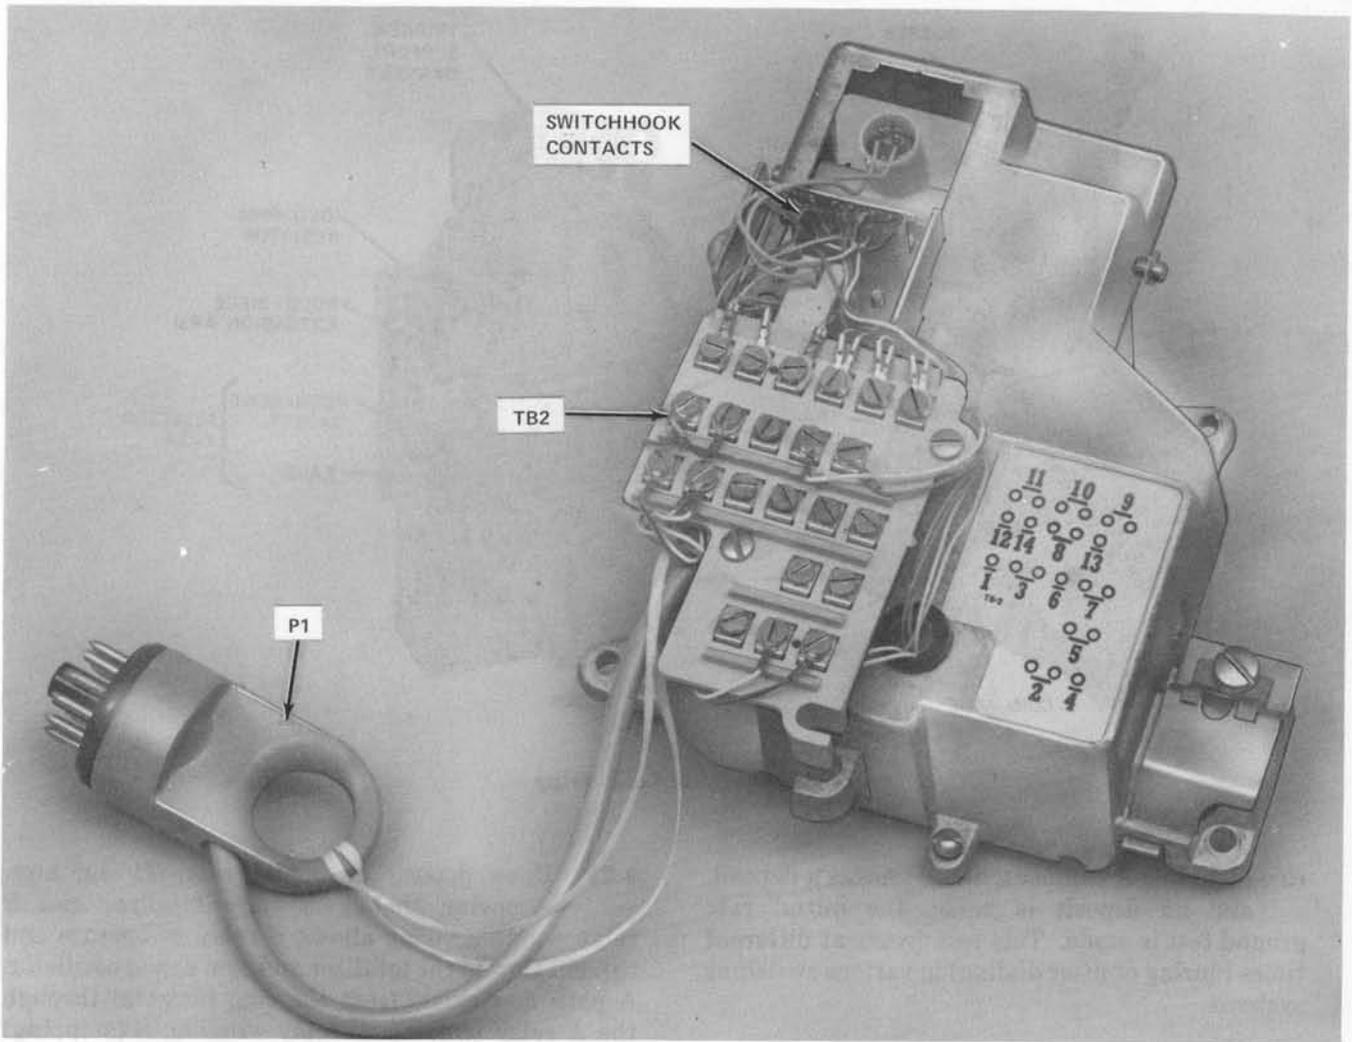

Fig. 7—Typical Coin Dial Unit
- (1) **B Relay**—The B relay contacts close during totalizer readout and place a capacitor across the speech circuit to prevent the customer from hearing coin signals.
- (2) **Coin Signal Oscillator**—Generates a dual frequency signal, controlled by totalizer readout indicating to the operator what value of coin has been deposited.
- (3) **A Relay**—Provides ground lifting in DTF mode and controls totalizer readout in CF mode.
D. **Coin Dial Unit (Fig. 7)**
2.13 The coin dial unit contains the switchhook contacts and rotary or TOUCH-TONE dial. The switchhook contacts are operated as the handset is lifted. Contacts SH1, SH2, and SH4 perform the same functions in both CF and DTF modes. SH3 differs as described in (3).